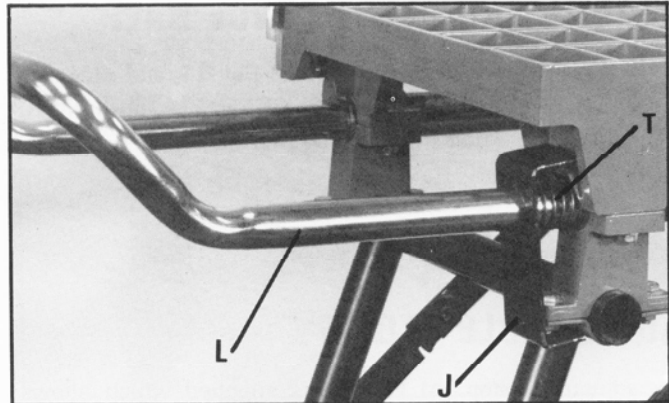

Fig. 7
3. Insert table support bars (L) Fig. 7, through hole in lock bracket (J) and place spring (T) on support bar between lock bracket (J) and saw base, as shown. Then insert ends of table extension support bars (L) into the two tubes located on the bottom of saw base, as shown in Fig. 7.